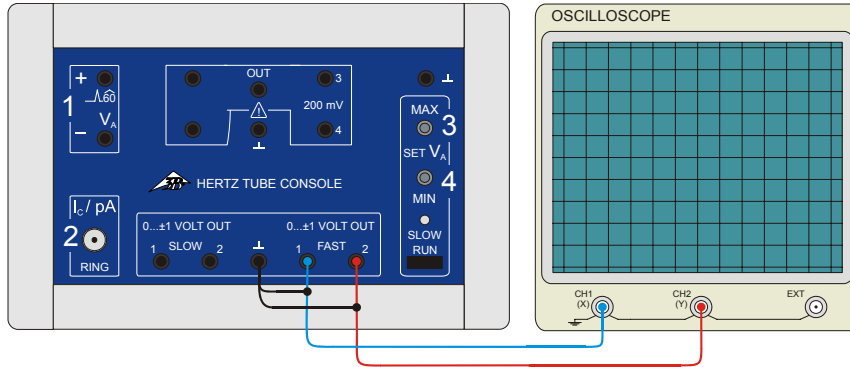

Fig. 4 Connection of an oscilloscope to the control unit for critical potential tubes
- Connect output Fast1 on the control unit to Channel 1 (X deflection) on the oscilloscope and output Fast 2 to Channel 2 (Y deflection). (See Fig. 4)